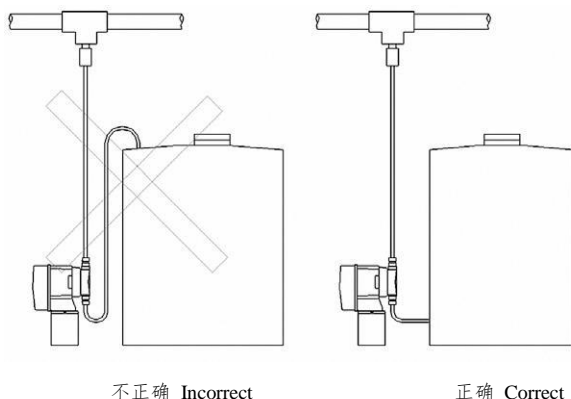

图 1 Fig. 1
- 浸灌式安装（理想安装）。（如图1）Immerse and irrigation type installation (ideal installation) (as shown in Fig.1)